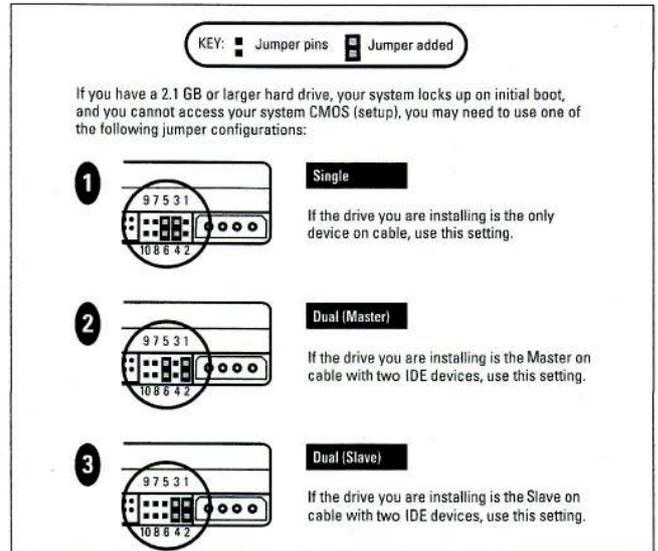

Figure 6. Alternate Jumper Settings for Hard Drives
**CAUTION:** Use the jumper settings in Figure 6 only if you encounter the specific BIOS limitation (system locks up) described in this section. These jumper settings cause the drive to report 4092 cylinders (2.1 GB) rather than the actual drive capacity. If you use these jumper settings, you MUST use Data Lifeguard Tools™ to partition and format your hard drive to access the full capacity of your new drive.
- Rejumper the hard drive as shown in Figure 6 and install Data Lifeguard Tools which MUST be used with these alternate jumper settings. If you move this hard drive to another system, you must replace the jumper in the standard position.